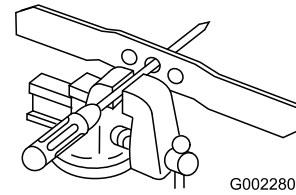

Figure 34
1. Check the balance of the blade by placing the center hole of the blade over a nail or screwdriver shank clamped horizontally in a vise (Figure 34).